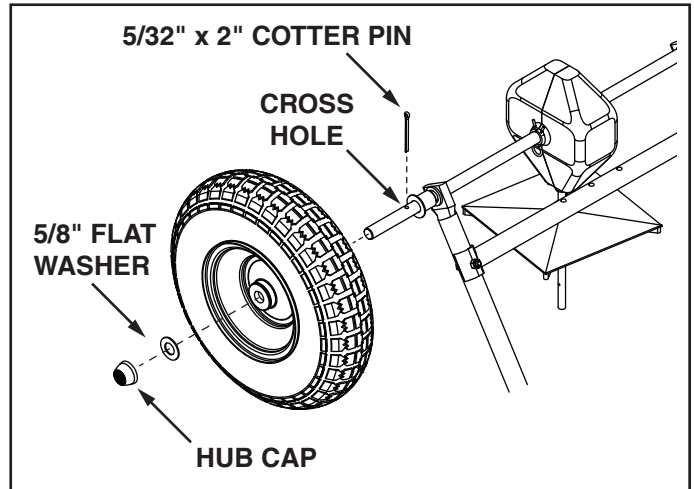

FIGURE 3
6. Assemble a 5/32" x 2" cotter pin through the hole in the wheel hub and the axle. See figure 3.
7. Place a 5/8" flat washer onto the axle and then lightly tap a hub cap onto the axle until it is snug against the washer and wheel hub. See figure 3.